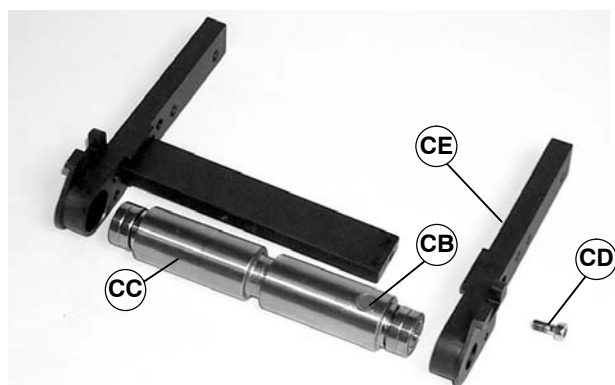

Figure 47
NOTE: Note on which side of conveyor magnet (CB of Figure 47) is located.
3. Locate magnet (CB of Figure 47) on spindle and bearing assembly (CC).
4. Remove screw (CD) to separate head plate (CE) from spindle and bearing assembly.
NOTE: Install magnet (CB of Figure 47) end of spindle and bearing assembly (CC) at same location as noted during removal.